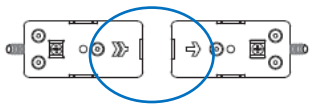
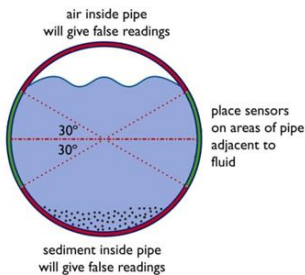

Figure 3: Correct Alignment for Arrows
Figure 4: Install Transducers at 3:00 or 9:00 Position
- **Install the transducers** at the specified spacing (see below for more notes about mounting fixtures) with a small amount of ultrasonic couplant applied along the center line of the transducers. The spacing is measured between the inside edges of the transducers. Ensure that the engravings on the backs form an **arrow pointing in the direction of flow** (Figure 3). The transducer cables should point in opposite directions. The transducers should be placed on the sides of the pipe at the 3:00 or 9:00 position to ensure they are placed in areas adjacent to fluids (Figure 4).